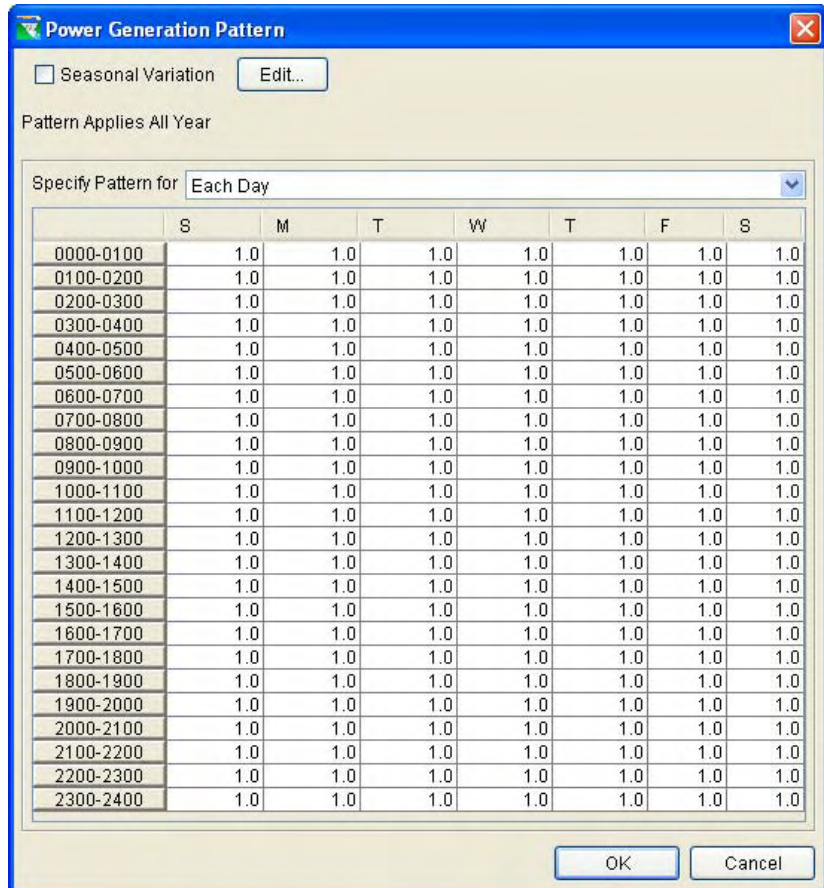

Figure 11.41 Power Generation Pattern (Each Day)
- The **Each Day** option (Figure 11.41) allows you to specify different power generation patterns for every day of the week.